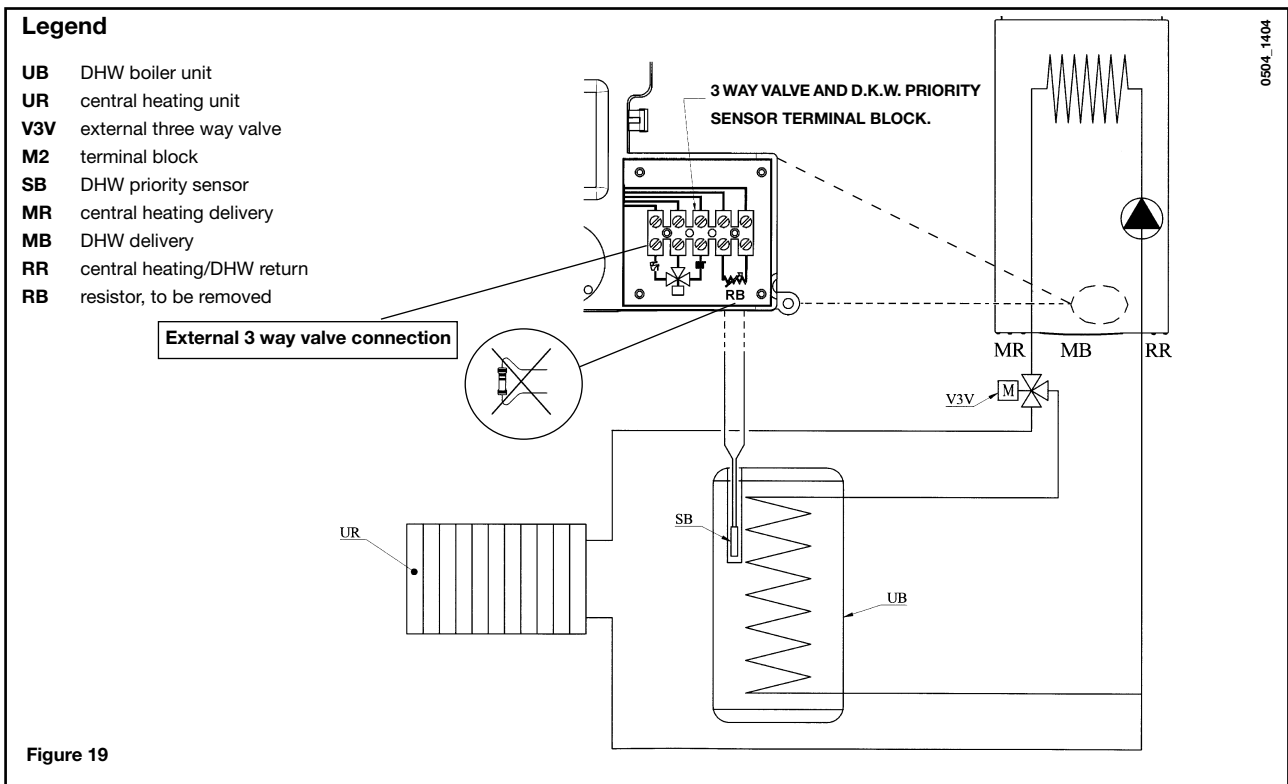

Figure 19
Connect the boiler water pipes as shown in figure 19.
- remove the two screws (right in front of you) securing the DHW heat exchanger and pull it off its seat (figure 19).
- unscrew the nut on the flow sensing assembly (Figure 19);